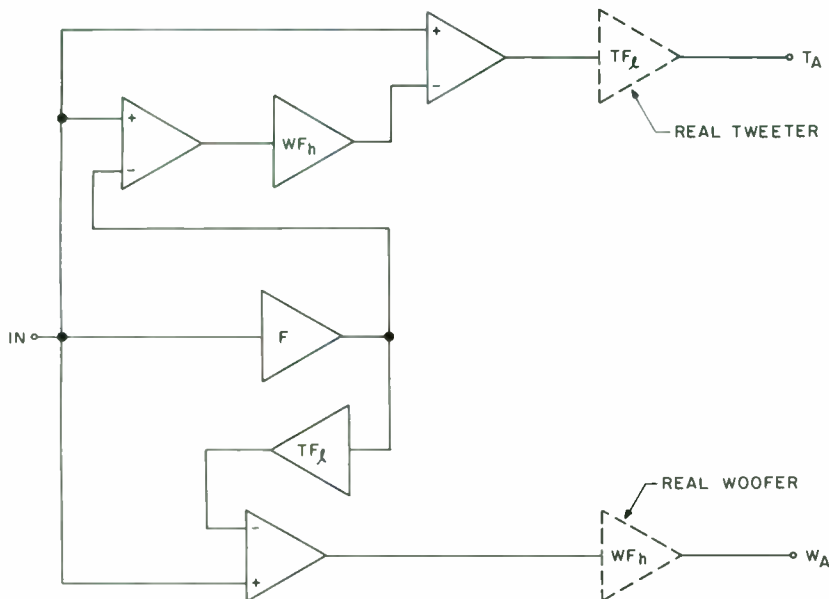

FIGURE 4: Crossover circuit with compensated tweeter and woofer.
3. You can add the woofer compensation the same way. In the high frequencies, the woofer can cut, for example, at 5kHz, so you add a filter (WF_h) to the circuit. As you can see in Fig. 4, the crossover circuit becomes a bit more complex. For this circuit,